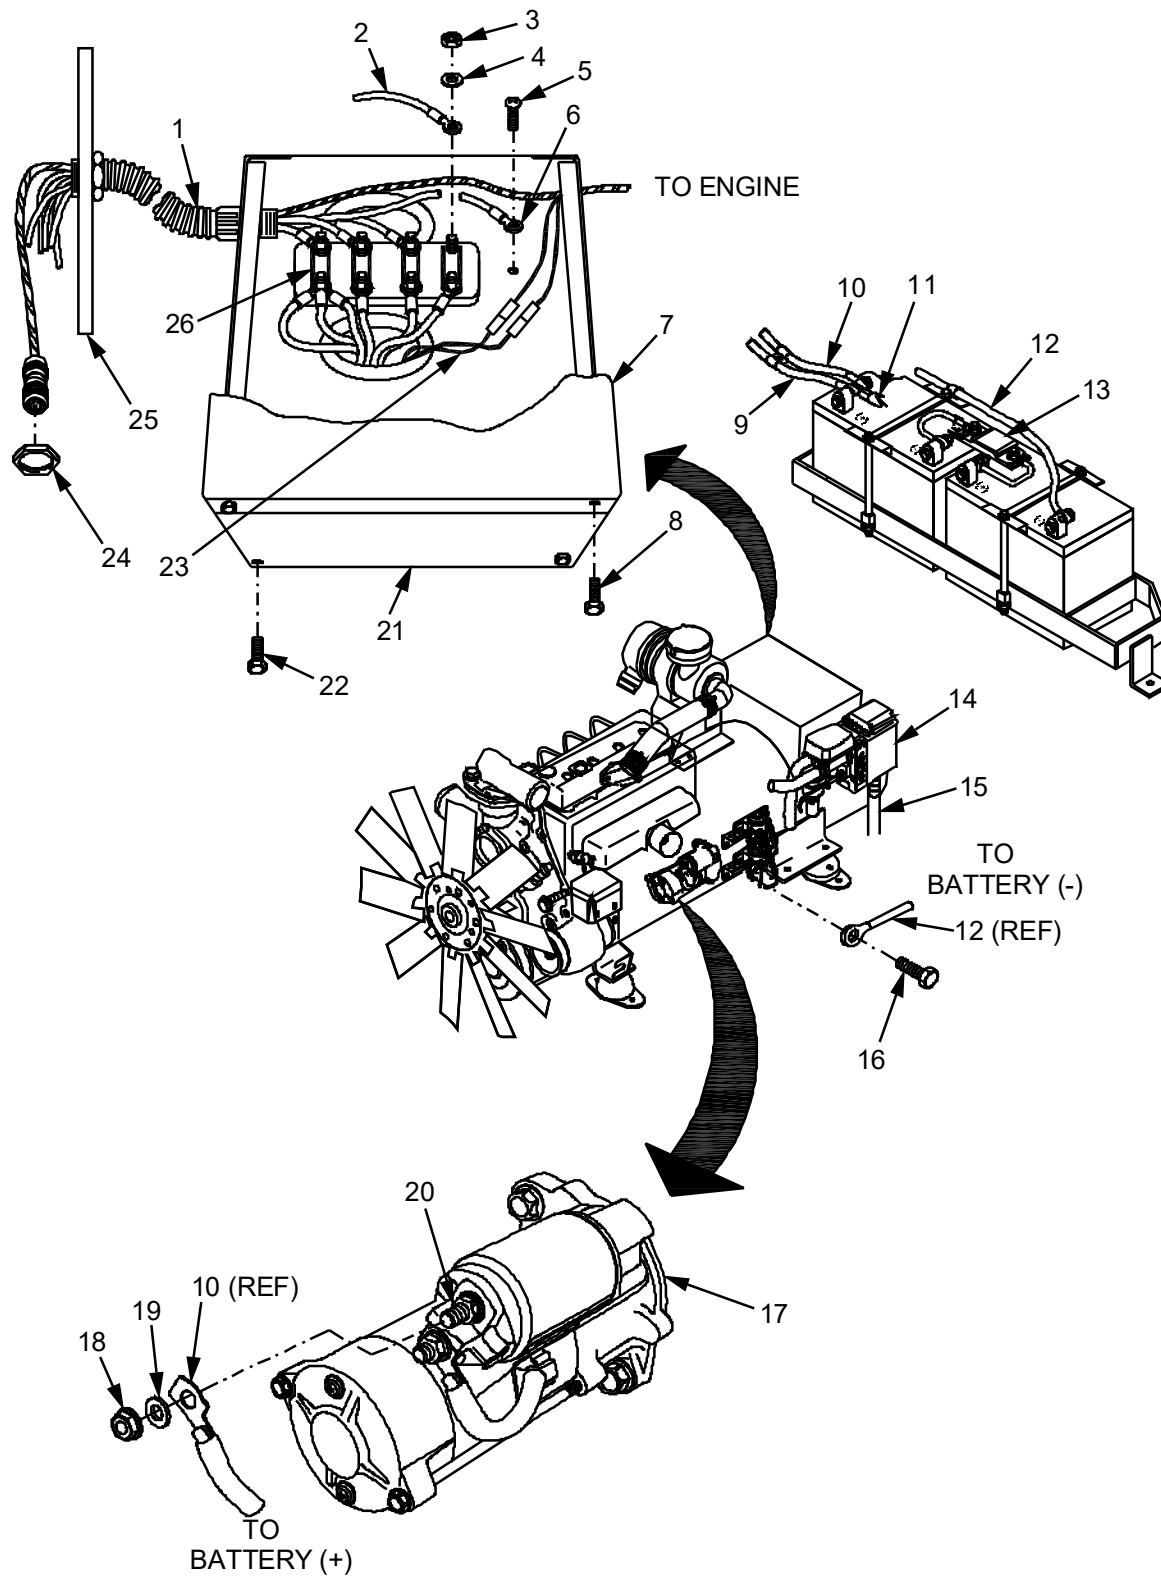

Figure 3. Electrical and Engine block Heater Connections for Engine/Generator - Replace.
1. Disconnect battery ground cable (black) (Figure 3, Item 12) from battery negative (–) terminal.
2. Disconnect starter cable (Figure 3, Item 10), engine block heater cable (Figure 3, Item 11) and J6 cable (Figure 3, Item 9) from positive battery terminal (WP 0056).
3. Disconnect fuse (Figure 3, Item 13) from battery terminals (WP 0056).
4. Disconnect battery cable (red) (Figure 3, Item 10) from starter (Figure 3, Item 17). Follow cable around engine. Remove and retain any cable clamps and associated hardware securing the cable.
5. Disconnect ground cable (black) (Figure 3, Item 12) from engine. Follow cable around engine. Remove and retain any cable clamps and associated hardware securing the cable.
6. Loosen four bolts (Figure 3, Item 8) that secure generator cable access cover (Figure 3, Item 7). Remove generator cover (Figure 3, Item 7) and set aside.
7. Remove and retain four nuts (Figure 3, Item 3) and lock washers (Figure 3, Item 4) that secure wires (Figure 3, Item 2) (red, white, blue, and black) to output side of generator. Discard lock washers (Figure 3, Item 4).
8. Mark and disconnect four wires (Figure 3, Item 2) (red, white, blue, and black) from output side of generator, routed through harness to circuit breaker CB5 on barrier panel.
9. Install four nuts (Figure 3, Item 3) and new lock washers (Figure 3, Item 4) back onto terminals of generator securing black generator coil wires to terminal.
11. Mark and disconnect three wires (Figure 3, Item 2) (red, blue, and black) from input side of circuit breaker CB7 of barrier panel.
14. Remove jam nut (Figure 3, Item 24) securing conduit (Figure 3, Item 1) to barrier panel (Figure 3, Item 25). Disconnect conduit (Figure 3, Item 1) from barrier panel (Figure 3, Item 25).
15. Pull five wires (Figure 3, Item 2) (red, white, blue, black and green) disconnected in previous steps through conduit (Figure 3, Item 1).
17. Mark and disconnect two terminals (Figure 3, Item 23).
18. Remove and retain four bolts (Figure 3, Item 22) securing cable box (Figure 3, Item 21) to generator and lay cable box back out of the way.